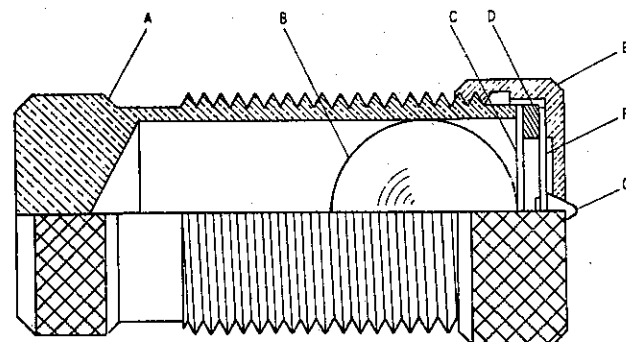

Fig. 14 Contact Assembly For The Directional And The Instantaneous Overcurrent Units
The contacts, Fig. 14, are especially constructed to suppress bouncing. The stationary contact (G) is mounted on a flat spiral spring (F) backed up by a thin diaphragm (C). These are both mounted in a slightly inclined tube (A). A stainless steel ball (B) is placed in the tube before the diaphragm is assembled. When the moving contact hits the stationary contact, the energy of the former is imparted to the latter and thence to the ball, which is free to roll up the inclined tube. Thus, the moving contact comes to rest with substantially no rebound or vibration. To change the stationary contact mounting spring, remove the contact barrel and sleeve as a complete unit after loosening the screw at the front of the contact block. Unscrew the cap (E). The contact and its flat spiral mounting spring may then be removed.